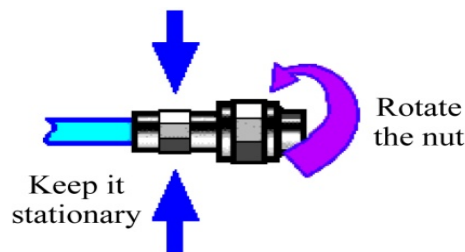

Fig.3.2 Connection method
Step 2: as shown in Fig.3.2, move the two connectors leveled together so that they can be smoothly engaged. Rotate the screw sleeve of the connector (note, not the rotating connector itself) until it is tightened, and there can be no relative rotational movement between the connectors during the connection.